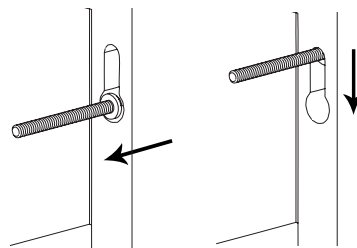

Figure 3
STEP 3: Attach each shadow boxes by placing the keyholes over the screws and applying a light downward force as shown in **Figure 3**.